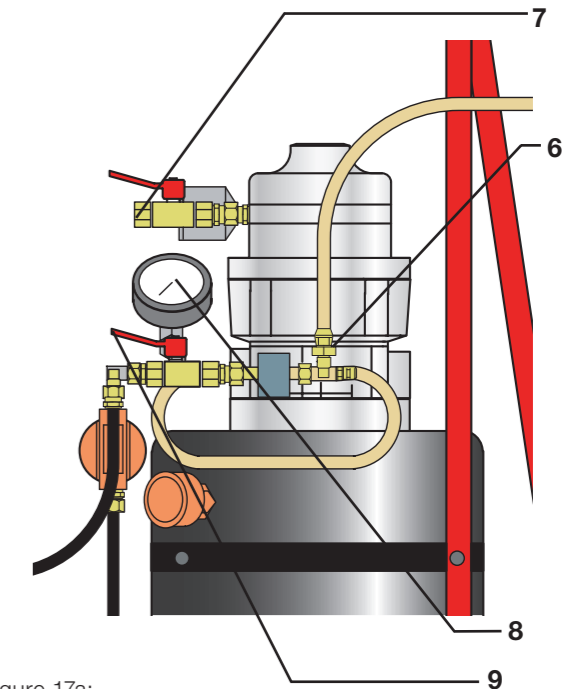

Figure 17a:
9.2 FILL WITH OIL AND THEN VENT (FIG. 17A AND 17B)